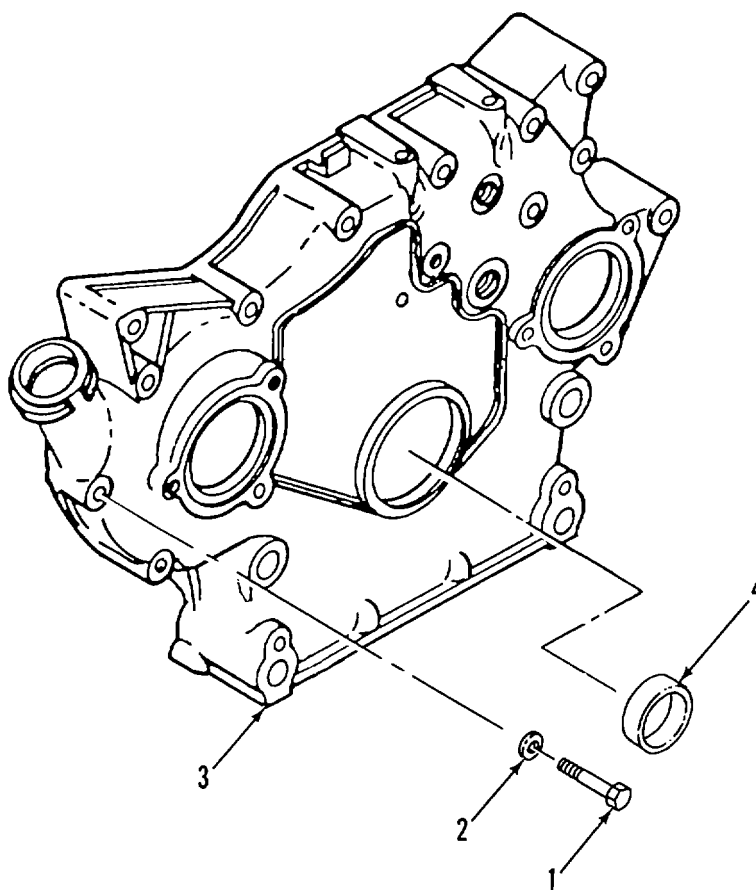

Figure 4-13. Front Cover
a. REMOVE. (Figure 4-13)
- (1) Remove bolts (1), flat washers (2), and front cover (3).
- (2) Remove shaft seal (4).